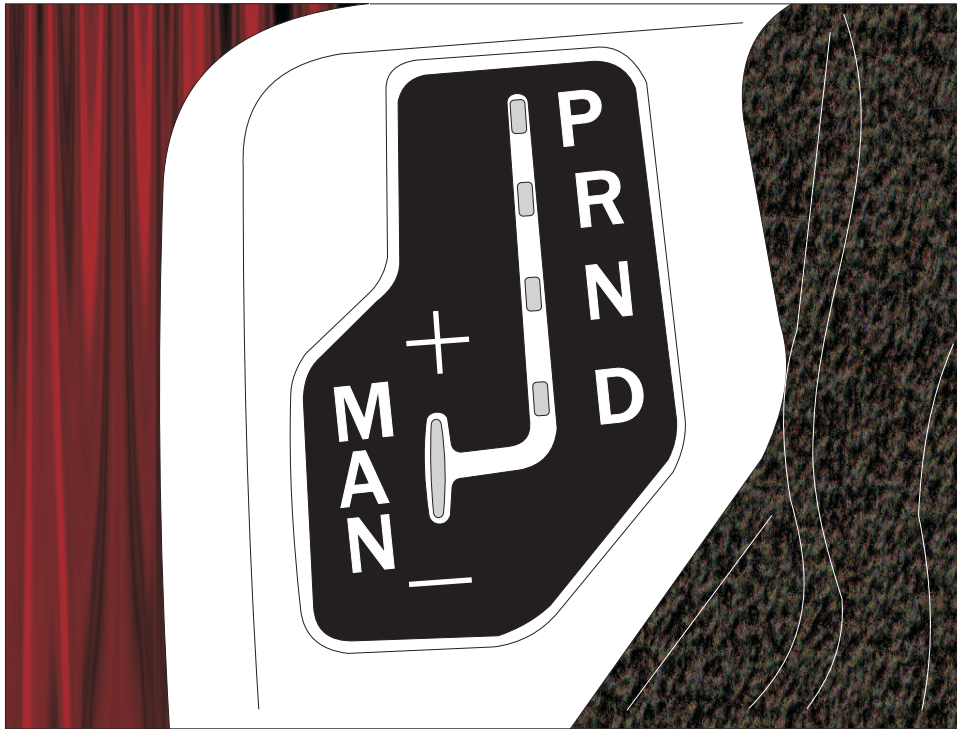
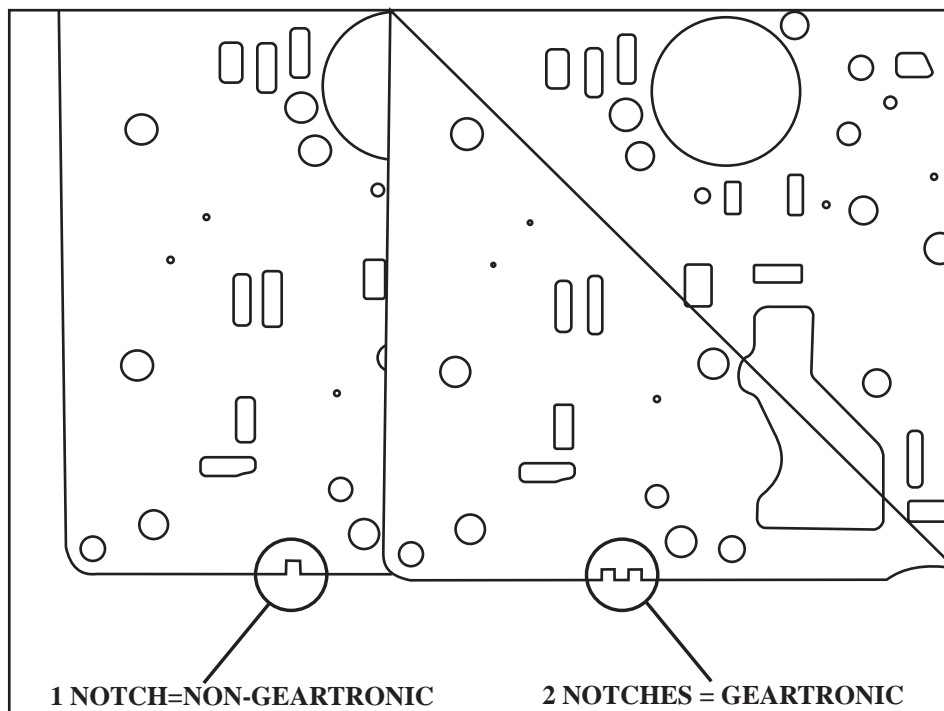
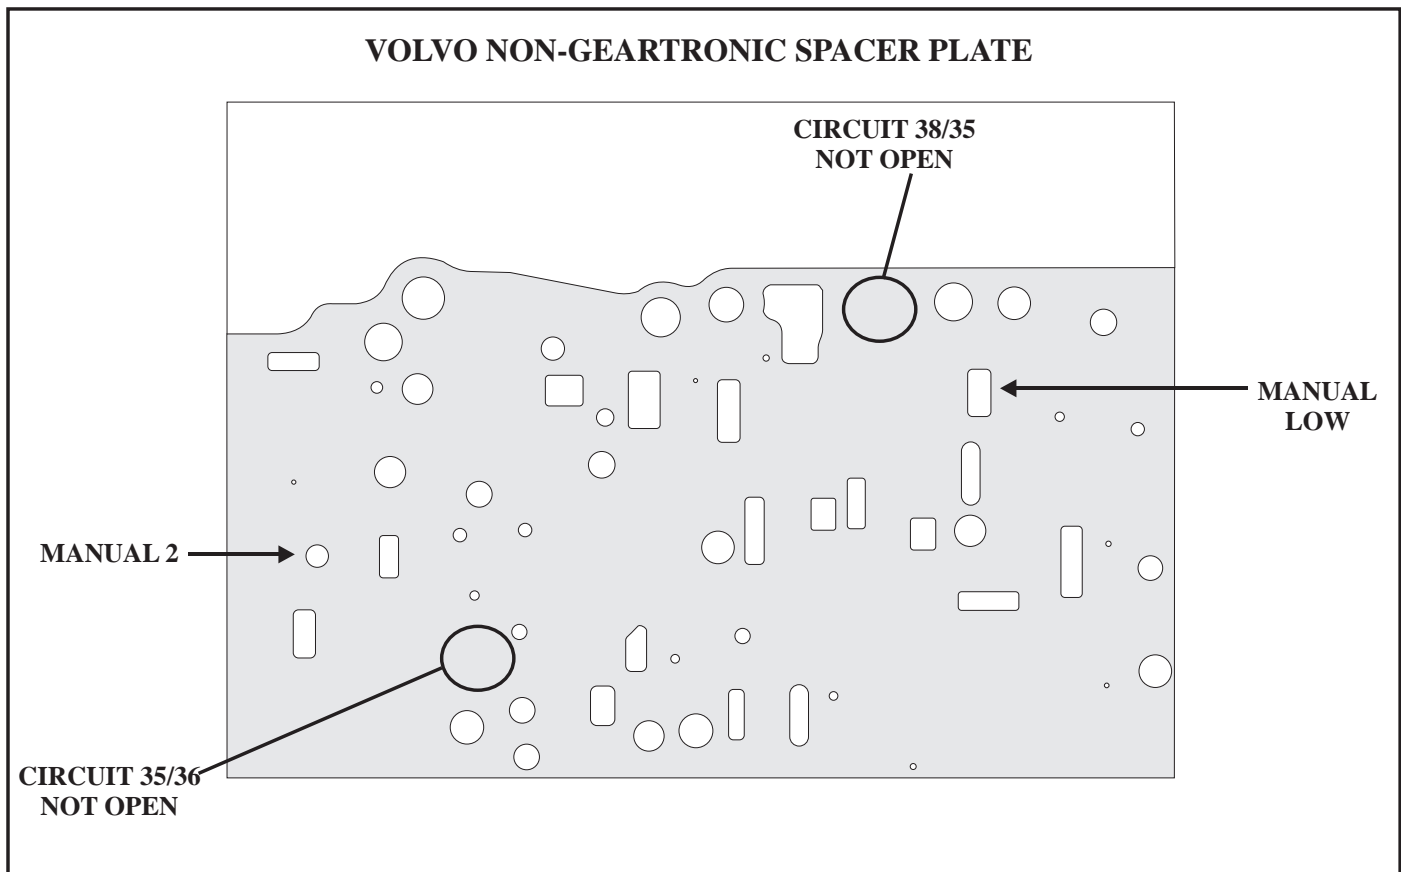

Figure 1
Figure 2
Figure 3
**CORRECTION:** A vehicle with a Geartronic system can be identified by the type of shifter it is equipped with such as the one seen in Figure 1. Geartronic and Non-Geartronic components are not interchangeable. Spacer plate notch identification can be seen in Figure 2. 1 notch represents Non-Geartronic while 2 notches indicate Geartronic operation. Shifters that have D4, D3, D2 and Manual Low positions are a Non-Geartronic system. The spacer plate shown in Figure 3 is the Volvo Non-Geartronic spacer plate which is similar to the GM spacer plate. Note that the manual low and manual second circuits are open and therefore functional while circuits 38/35 and 35/36 are closed and are therefore non-functional.
**CORRECTION:** Refer to Figure 3 and 4 for the valve locations in the valve body and replace the "o"ring on the Torque Converter Regulator Valve bore plug (item number 328).